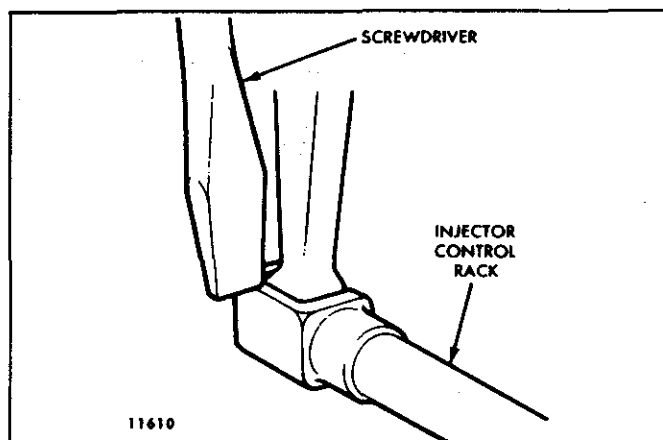

Fig. 4 – Checking Injector Rack “Spring”
6. To be sure of the proper rack adjustment, hold the speed control lever in the *full-fuel* position and press down on the injector rack with a screwdriver or finger tip and note the "rotating" movement of the injector control rack when the speed control lever is in the maximum speed position (Fig. 3). Hold the speed control lever in the maximum speed position and, using a screwdriver, press downward on the injector control rack. The rack should tilt downward and when the pressure of the screwdriver is released, the control rack should "spring" back upward (Fig. 4).